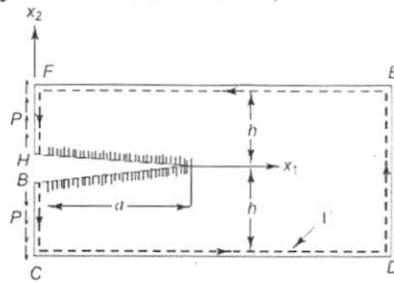

Figure. 4 (b).
- b) Determine the J-Integral for a double cantilever beam specimen, if each cantilever is pulled by a distributed load P , as shown in Figure 4 (b).